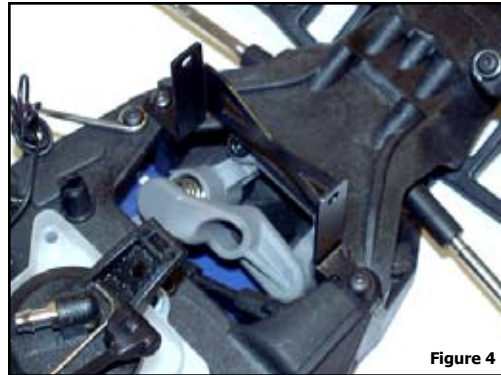

Figure 4
3. Attach *Cage Mount 2* to the upper chassis plate, using the 2 screws as shown in *Figure 4*. Leave these two screws slightly loose.